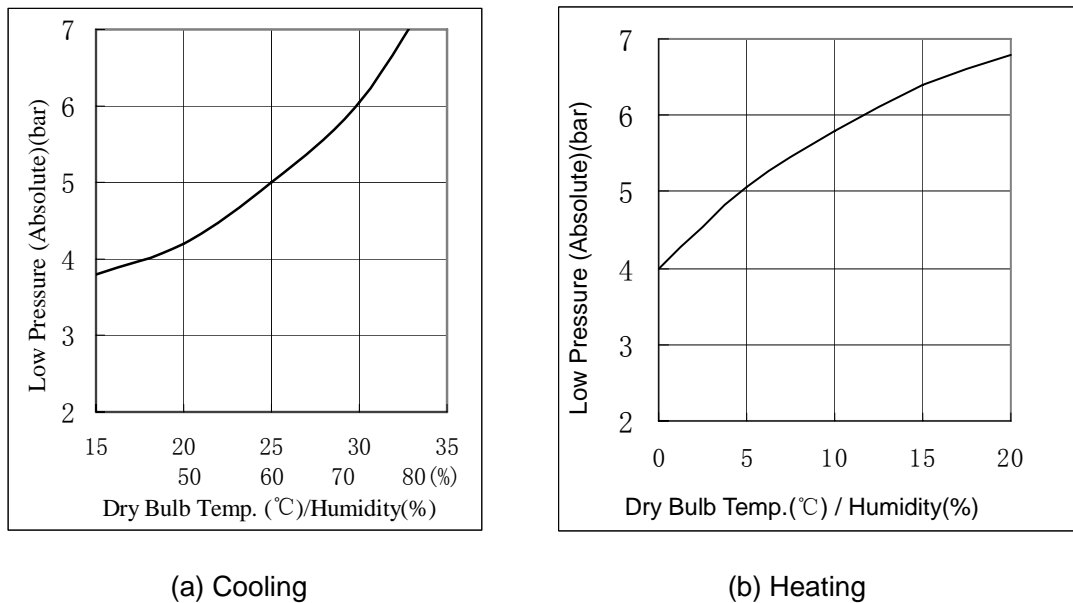

Fig. 3-1
3.1 Relation of Air-Conditioner Low Pressure and Temperature (Fig. 3-1)